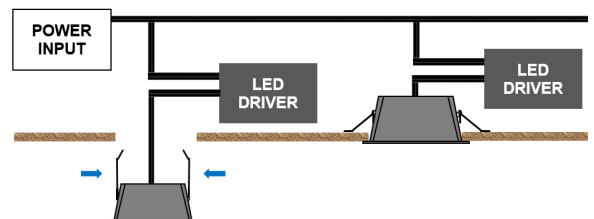

Fig.6
- Fix the lamp into the cutout (Fig6).